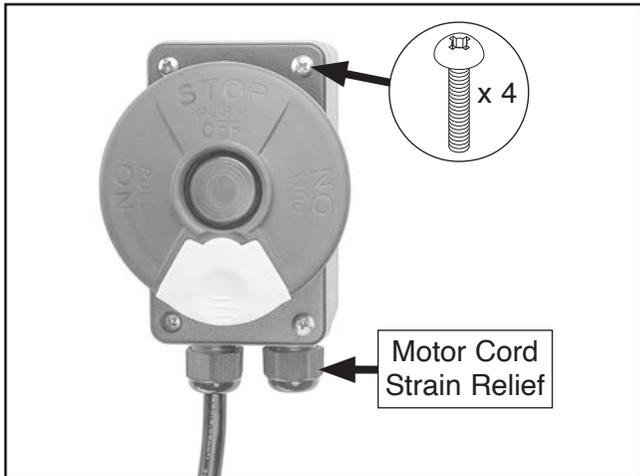

Figure 50. Location of ON/OFF switch cover and motor cord strain relief.
- 56. Remove (4) Phillips head screws shown in **Figure 50** to remove ON/OFF switch cover.
- 57. Loosen strain relief shown in **Figure 50**.